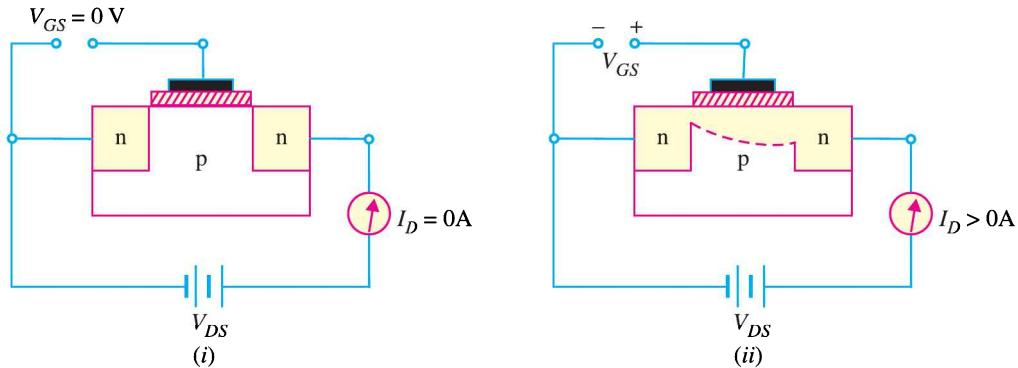

Fig. 19.55
Two things are worth noting about *E-MOSFET*. First, *E-MOSFET* operates *only* in the enhancement mode and has no depletion mode. Secondly, the *E-MOSFET* has no physical channel from source to drain because the substrate extends completely to the  $\text{SiO}_2$  layer [See Fig. 19.55 (i)]. It is only by the application of  $V_{GS}$  (gate-to-source voltage) of proper magnitude and polarity that the device starts conducting. The minimum value of  $V_{GS}$  of proper polarity that turns on the *E-MOSFET* is called *Threshold voltage* [ $V_{GS(th)}$ ]. The *n*-channel device requires positive  $V_{GS} (\geq V_{GS(th)})$  and the *p*-channel device requires negative  $V_{GS} (\geq V_{GS(th)})$ .
**Operation.** Fig. 19.55 (i) shows the circuit of *n*-channel *E-MOSFET*. The circuit action is as under :
- (i) When  $V_{GS} = 0 \text{ V}$  [See Fig. 19.55(i)], there is no channel connecting the source and drain. The *p* substrate has only a few thermally produced free electrons (minority carriers) so that drain current is essentially zero. For this reason, *E-MOSFET* is normally *OFF* when  $V_{GS} = 0 \text{ V}$ . Note that this behaviour of *E-MOSFET* is quite different from *JFET* or *D-MOSFET*.
(ii) When gate is made positive (*i.e.*  $V_{GS}$  is positive) as shown in Fig. 19.55 (ii), it attracts free electrons into the *p* region. The free electrons combine with the holes next to the  $\text{SiO}_2$  layer. If  $V_{GS}$  is positive enough, all the holes touching the  $\text{SiO}_2$  layer are filled and free electrons begin to flow from the source to drain. The effect is the same as creating a thin layer of *n*-type material (*i.e.* inducing a thin *n*-channel) adjacent to the  $\text{SiO}_2$  layer. Thus the *E-MOSFET* is turned *ON* and drain current  $I_D$  starts flowing from the source to the drain.